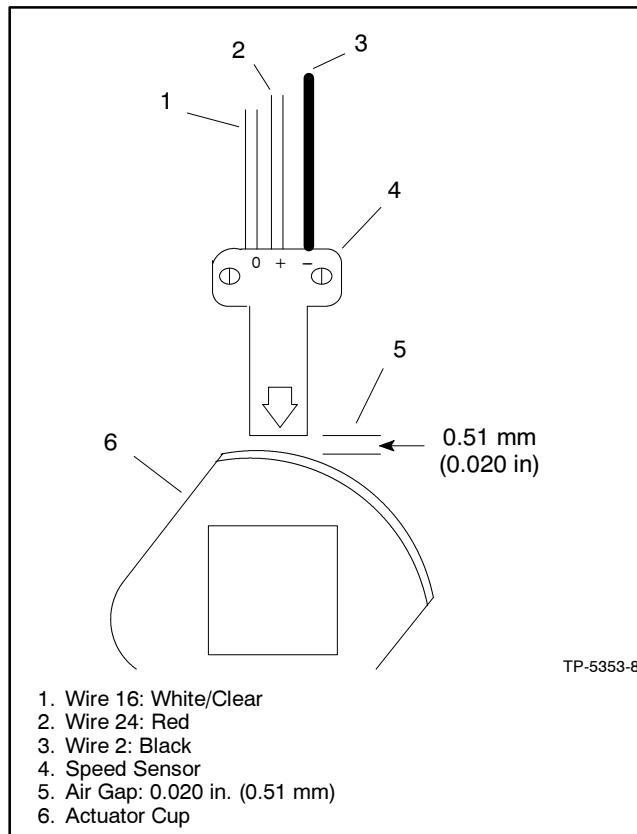

Figure 5 Speed Sensor Air Gap
27. Insert speed sensor leads through grommet (257069) and reconnect speed sensor leads to original speed sensor. See Figure 5. Temporarily